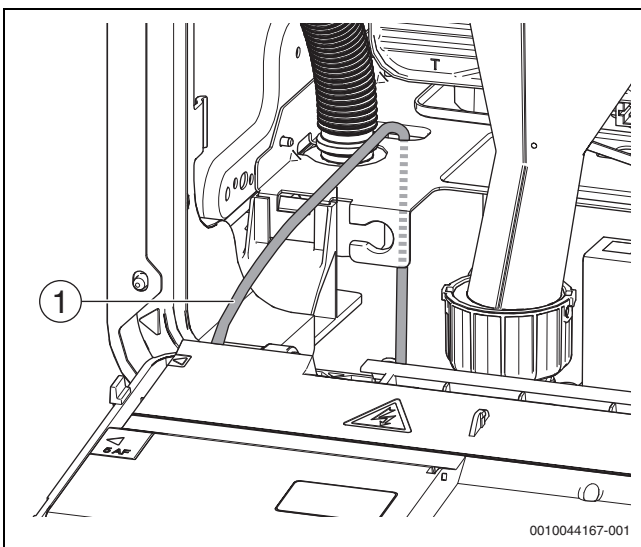

Fig. 51 Mains supply cable routing
- ▶ Mains supply cable routing must be routed through the hole in the bottom plate → Figure 51.